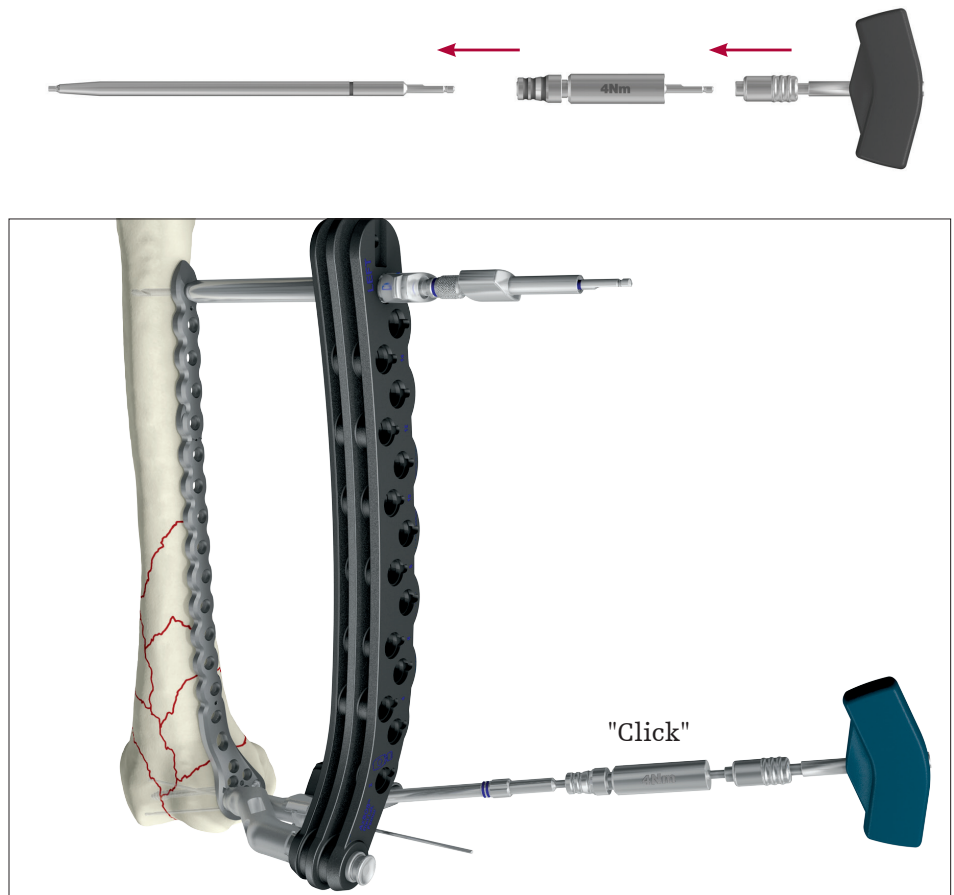

Fig. 21
Final tightening of locking screws should always be performed manually using the torque limiter (ref 702750) together with the screwdriver bit T20 (ref 703540) and the T-handle (ref 702430) (fig. 21). This helps prevent over-tightening of locking screws, and also ensures that these screws are tightened to a torque of 4.0Nm. The device will click when the torque reaches the appropriate tightening torque (4.0Nm).